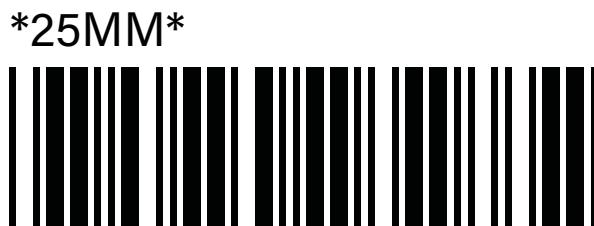

Figure 9-18. Barcode – 25MM
44. Using the barcode scanner, scan the 25MM barcode for the 25 mm bolts, as shown in figure 9-18.